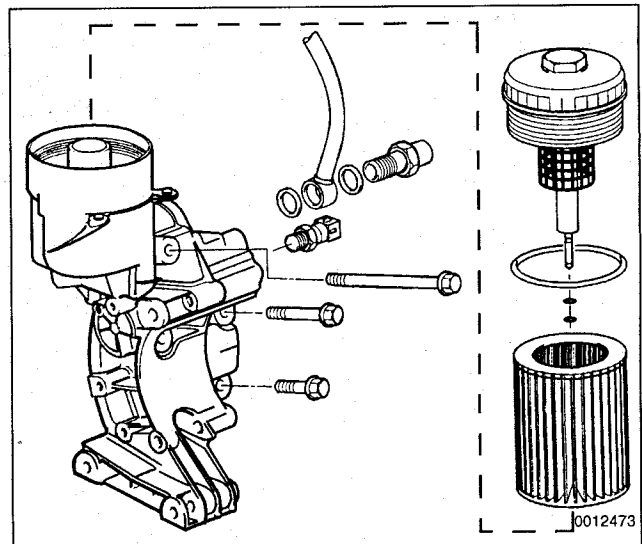

Fig. 7. Oil filter housing on 6-cylinder engine. 4-cylinder engine is similar.
6. Lubricate and install new O-rings. Install a new filter cartridge and housing cover. Tighten cover. See Fig. 7.